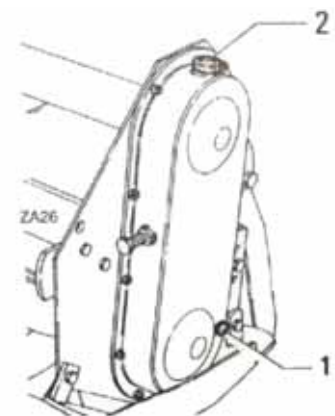

Figure 14
- Remove oil level plug "1" (Fig. 14).